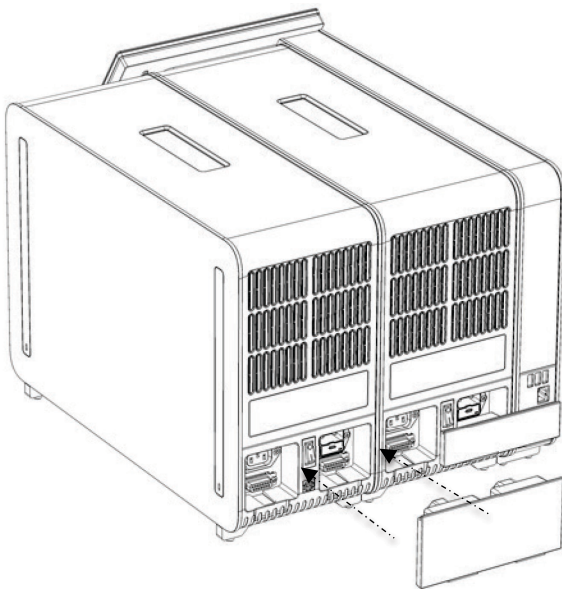

Figure 18. Connecting the Analytical/Analytical Module Bridge.
6. Connect the Analytical/Analytical Module Bridge at the back of the QIAstat-Dx Analyzer 1.0 to link the two Analytical Modules together (Figure 18).